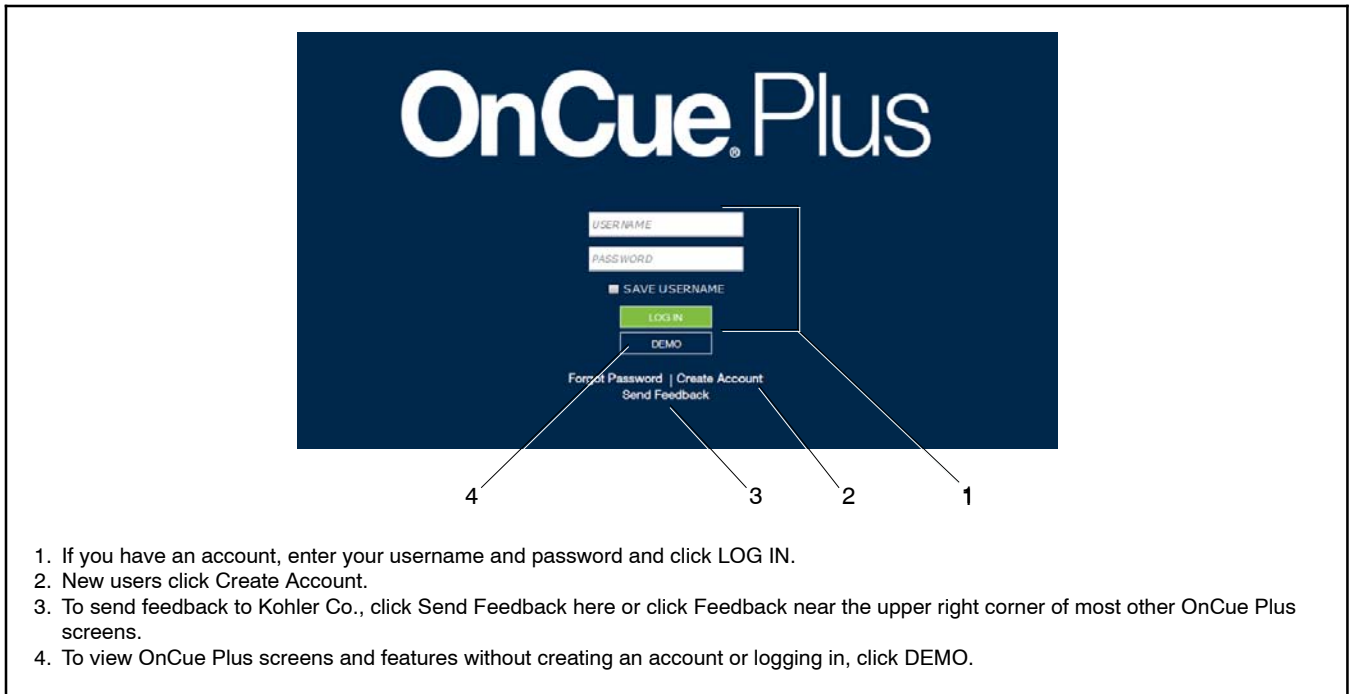

Figure 2-2 OnCue Plus Sign In Screen
- To use the OnCue Plus web application, use your computer to navigate to the OnCue Plus website www.kohlergenerators.com/oncue. The OnCue Plus log-in window opens. When you start OnCue Plus for the first time, click on Create Account. See Figure 2-2. Instructions in the following sections explain how to set up an account and add your generator to OnCue Plus.
To preview the OnCue Plus screens and operation without creating an account or logging in, click on the DEMO button. See Figure 2-2. The demo allows you to navigate through all menus and review the information available through OnCue Plus without connecting to an actual generator set. You can “start” and “stop” the demo generator set from the Controls menu, view the generator parameters, and rename inputs and outputs.